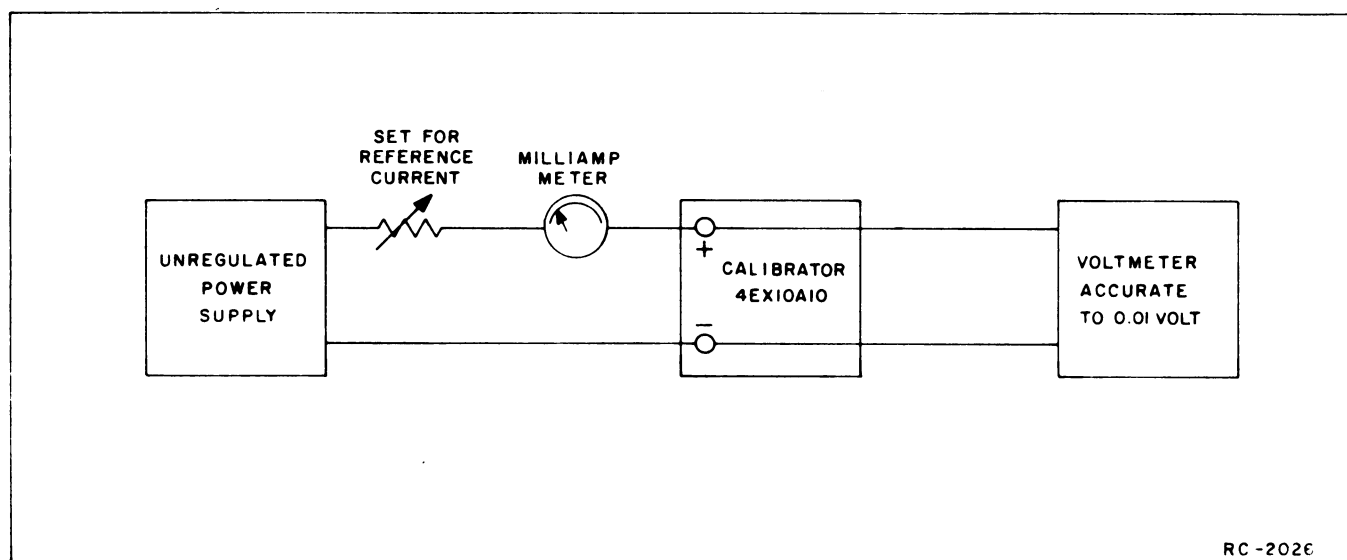

Figure 1 - Adjustment Set-Up
1. Connect the equipment as shown in Figure 1.
The calibrator can be used to check the calibration of standard DC voltmeters due to the extreme accuracy of the calibrator voltages (± 0.01 volt). Simply connect the equipment as shown in Figure 1, using a standard DC voltmeter instead of a digital voltmeter.